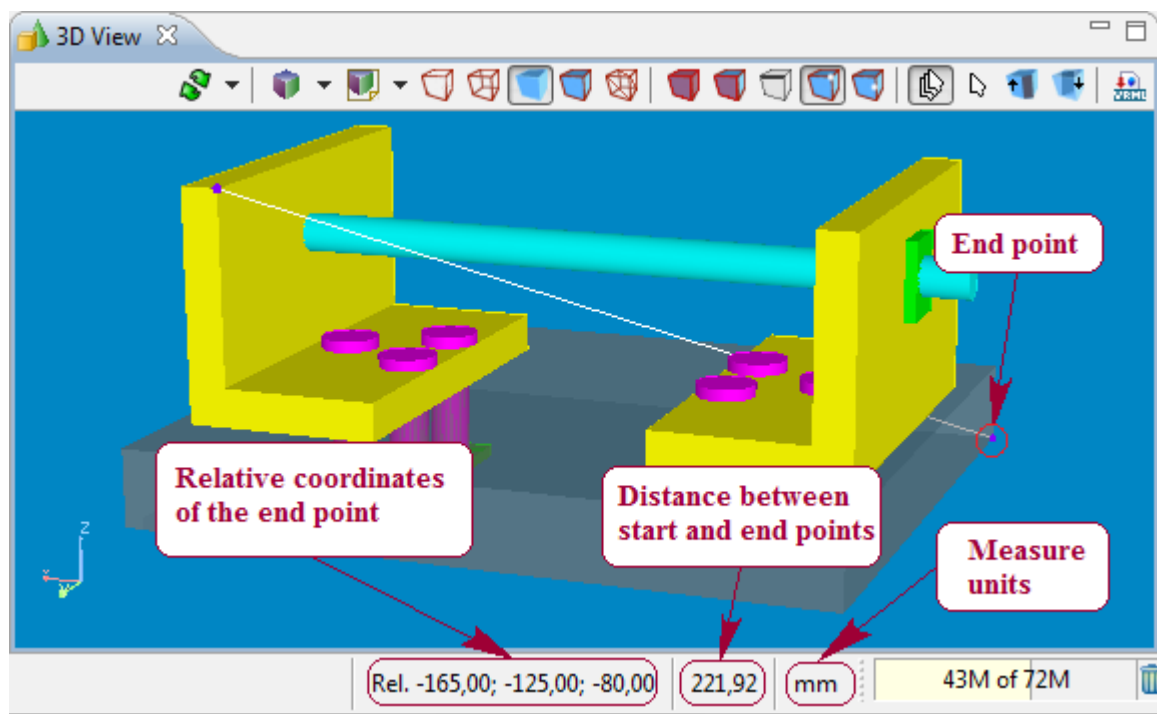

Figure 4. End point and measuring data in statusbar
- Select an *end* point of the measuring line by flying by with a mouse on a 3D object. The point flashes up for all near vertex points. Right after the mouse pointer is moved, the relative mode is switched *On* and relative coordinates are displayed in the statusbar. The "air-length" between the start and end points is displayed on the right of the coordinates (see Figure 4).
The measuring results are presented in the statusbar (see Figure 4):